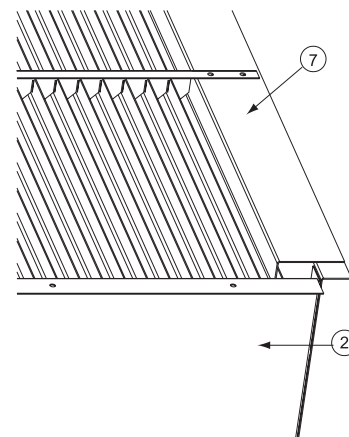
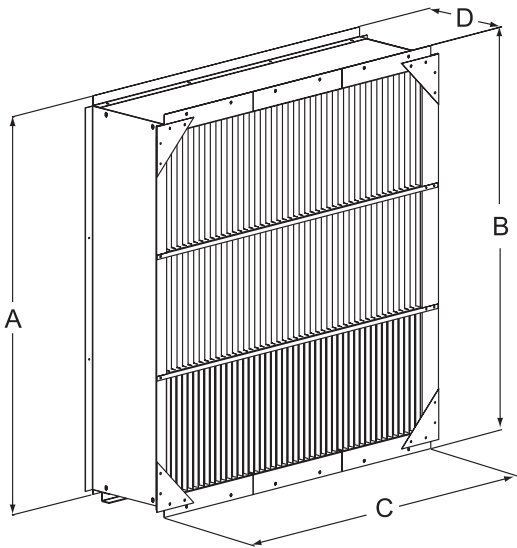

Figure 7
Figure 9
6. Install the right and left fillers as shown in Figure 6 and Figure 7 using #10 Tek screws. The fillers will overlap the edge of the first profile on each and attach to the side panel flange. Make sure the assembly is square and install the corner supports using the #10 Tek screws provided. Mount as shown in Figure 9.